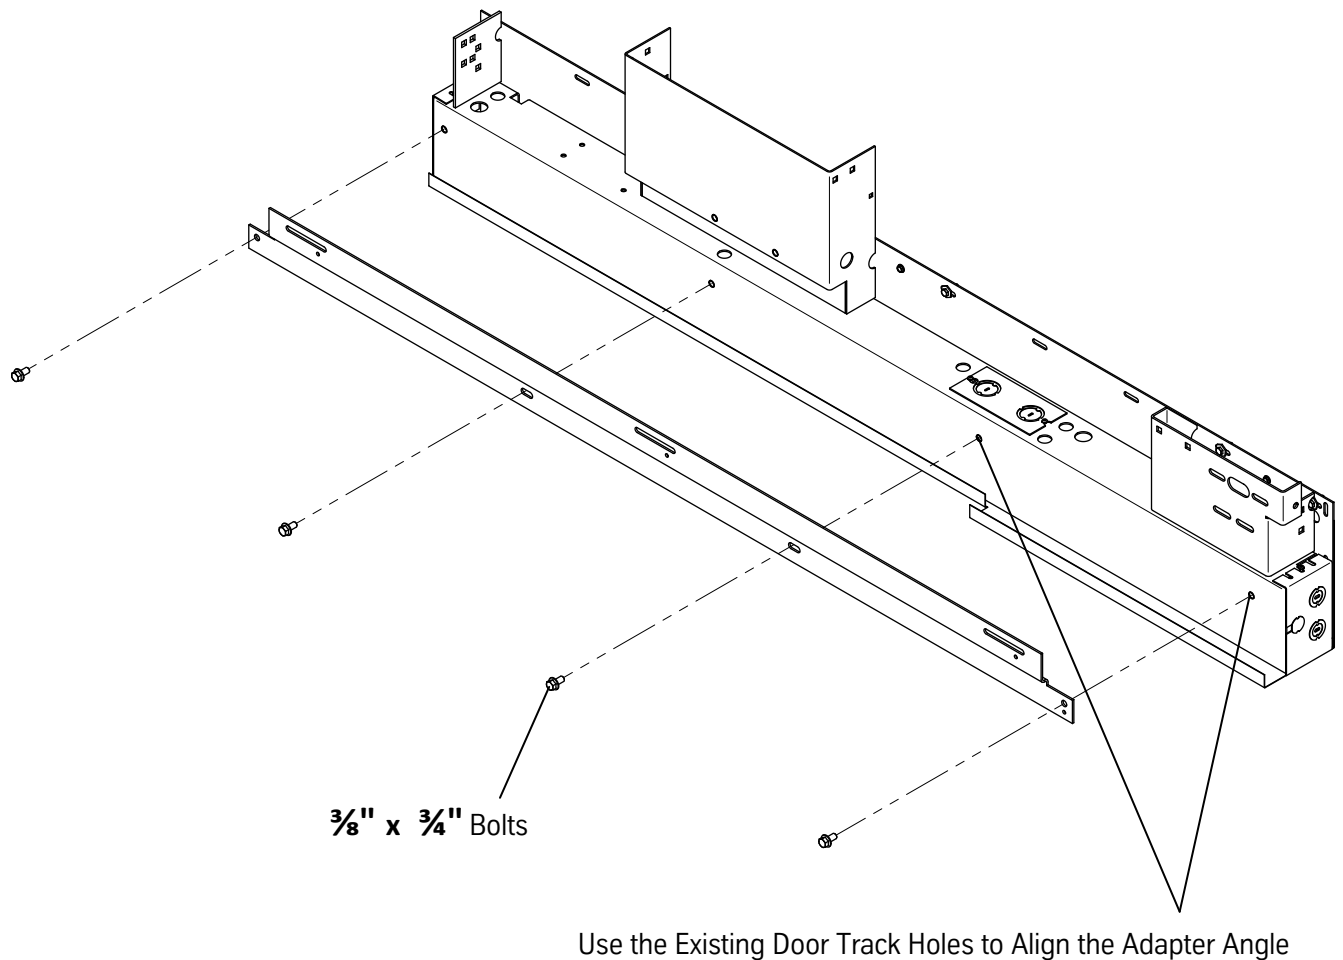
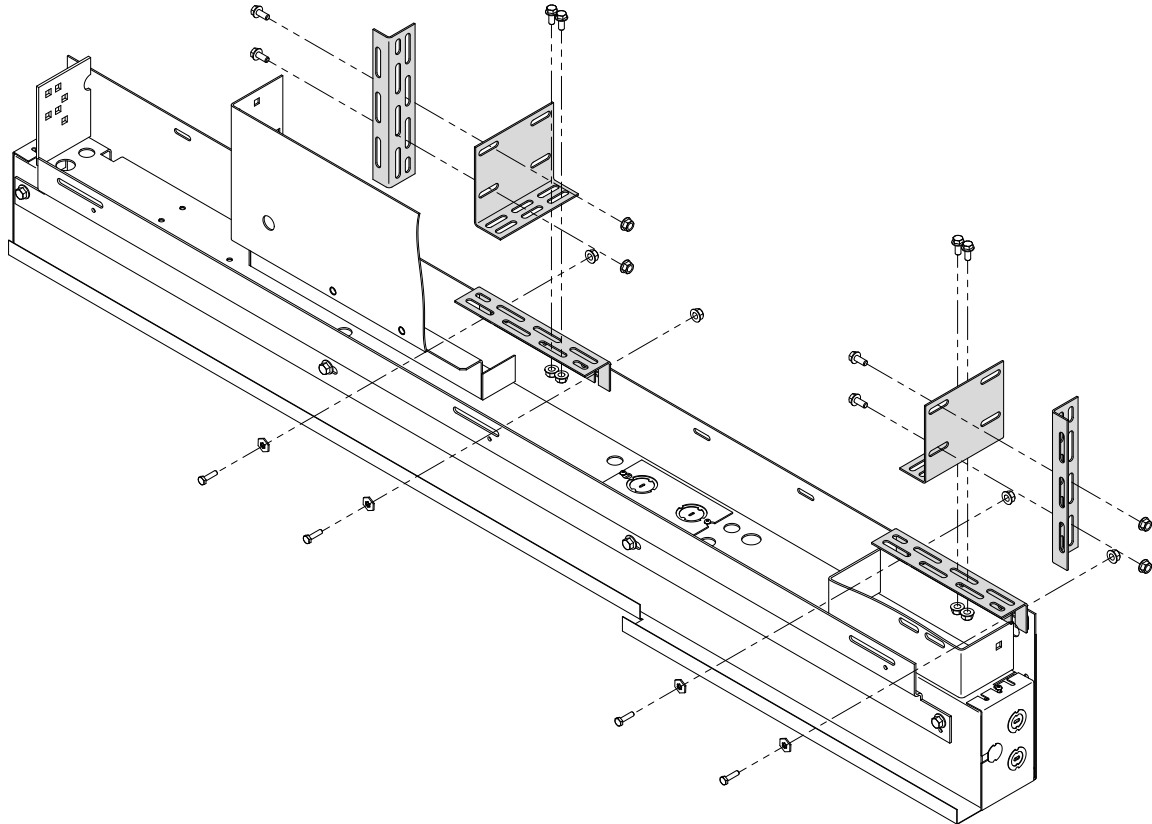

Figure 12 - Adapter Angle Installation (1 of 2)
Figure 13 - Adapter Angle Installation (2 of 2)
7. Use the existing door track holes to align the adapter angle. See Figure 12 below and Figure 13 on page 22.